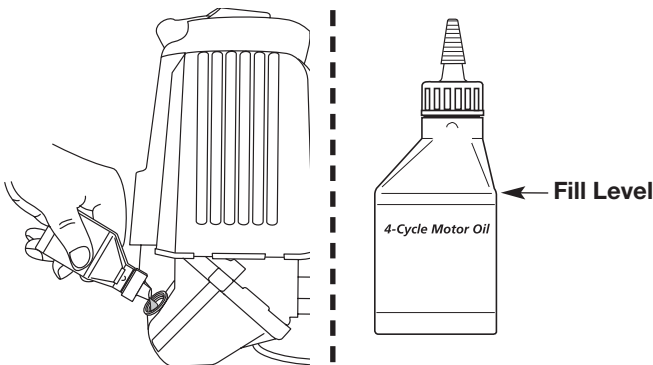

Fig. 43
**NOTE:** Use the bottle and spout saved from initial use to measure the correct amount of oil. The top of the label on the bottle measures approximately 3.0 fl oz (90 ml) (Fig. 43). Check the level with the dipstick. If the level is low, add a small amount of oil and recheck. Do not overfill (Fig. 43).